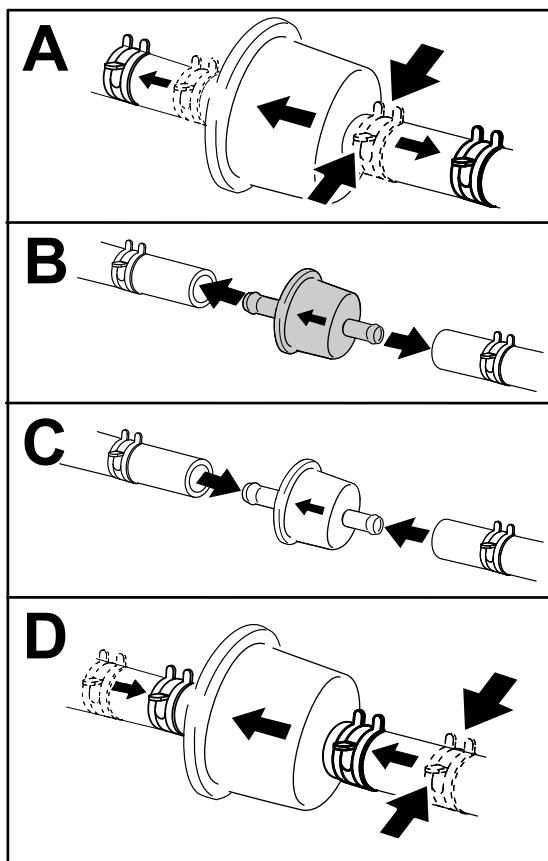

Figure 51
3. Replace the filter (Figure 51).